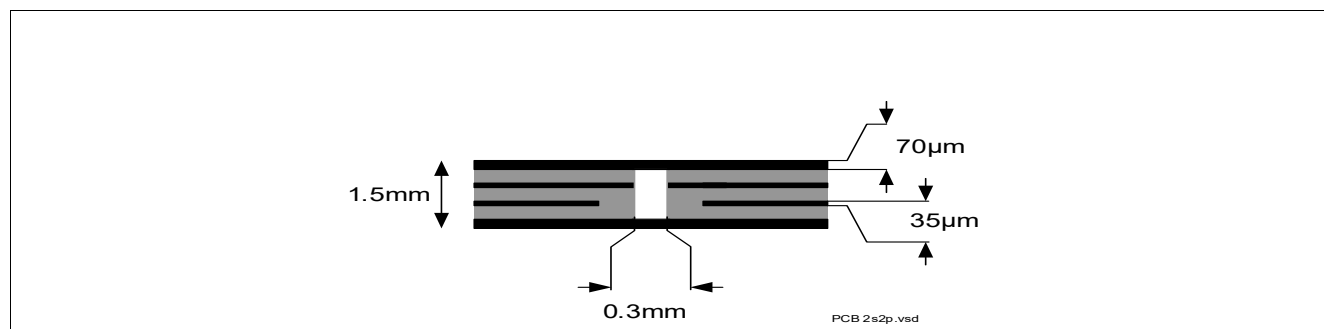

Figure 4 2s2p PCB Cross-Section
2) Specified R_{thJA} value is according to JEDEC JESD51-2,-5,-7 at natural convection on FR4 2s2p board with 1 W power dissipation equally dissipated for both channel at $T_A = 105^{\circ}\text{C}$; The product (chip + package) was simulated on a 76.4 x 114.3 x 1.5 mm board with 2 inner copper layers (2 x 70 μm Cu, 2 x 35 μm Cu). Where applicable, a thermal via array under the exposed pad contacts the first inner copper layer. Please refer to Figure 4.